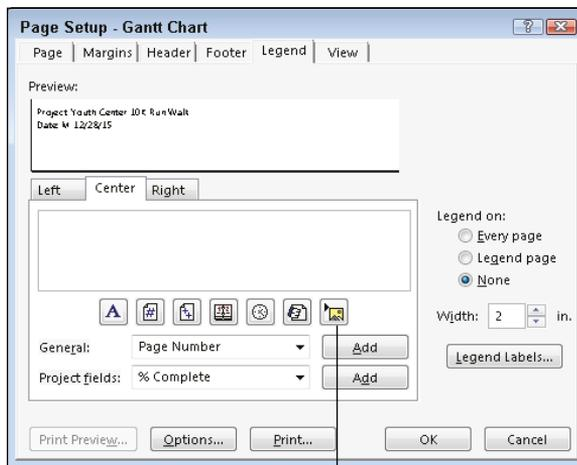

Figure 18-9:
4. Click the **Insert Picture** button, as shown in **Figure 18-9**.